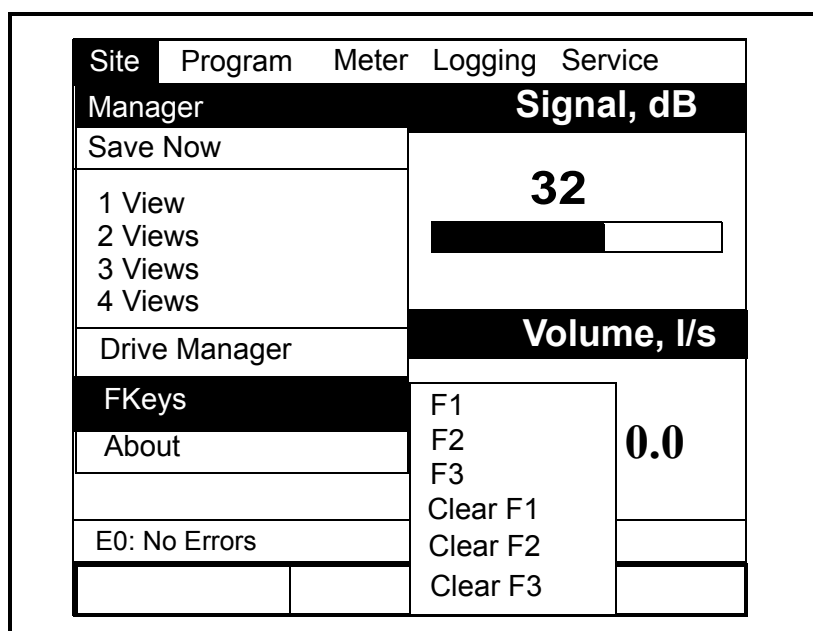

Figure 3-8: The FKeys Menu
3. Use the [▼] or [▲] arrow keys to move to the *FKeys* option and press [ENTER]. A screen similar to Figure 3-8 below appears.
3. Use the [▼] or [▲] arrow keys to move to the *FKeys* option and press [ENTER]. A screen similar to Figure 3-8 on page 3-9 appears.